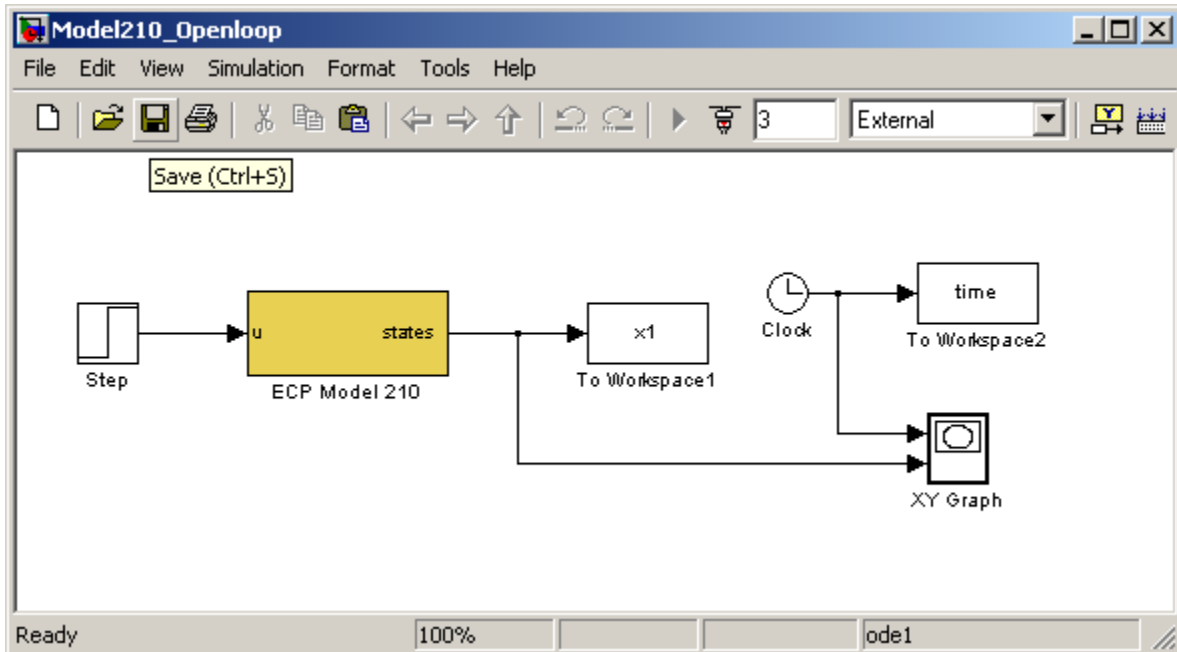

Figure 6: Model210\_Openloop.mdl
3. Open up the Simulink file, **Model210\_Openloop.mdl**, it should look like Figure 6. The yellow block in the middle is what actually connects to the ECP system. Note that the output of this system is labeled  $x_1$ , the cart position. **Do not change this!**
5. Change the input to the system by double clicking on the **Step** block in Figure 6. To start, enter a small step amplitude or input value such as **0.05**. This value is small because some of the systems have a static gain of more than 40 and the cart should not move more than a couple of centimeters. ***You may have to increase the step input to get your particular system to have a steady state value of at least 1 cm.*** Click **OK** and then save the file.